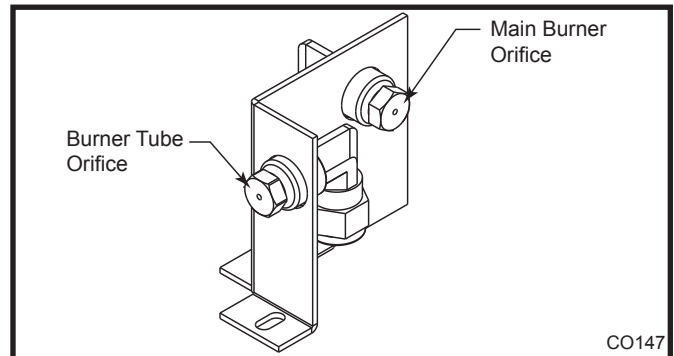

Fig. 51 Burner orifice replacement.
3. Using a 1/2" open end wrench remove the orifices. (Fig. 51)